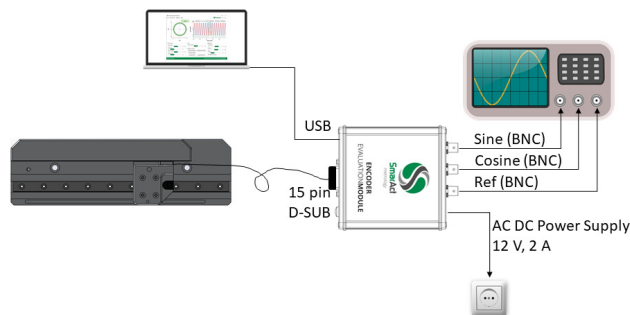

Figure 5. ENCODER EVALUATION KIT connection diagram
3. Connect the **METIRIO** A1 and the PC to the **EEM** as shown in Figure 5. Use the 12V Power Supply to power the **EEM**. To turn it on push the power button on the front panel. Use only the cables and Power Supply delivered by SmarAct Metrology.